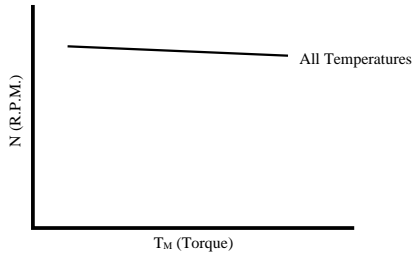

Fig. 3. r_1 Temperature Characteristics = r_a Temperature Characteristics
R_a is the copper coiled resistor of the motor and has the temperature characteristics of + 3,900r.p.m/ $^{\circ}$ C. Therefore, it is necessary to set the value of r_1 so that the relationship in the expression (7) will be satisfied at the minimum working temperature. The diffusion resistance r_3/r_2 in the IC has the flat temperature characteristics, and if the temperature characteristics of r_1 is adjusted to that of R_a , + 3900 r.p.m/ $^{\circ}$ C, the value of the second term ($r_1 r_2 r - R_a$) of the expressions (4) and (5) shows the flat temperature characteristics and the torque characteristics of the motor speed becomes constant without depending on a temperature. Fig. 2 and Fig. 3 show this relationship.